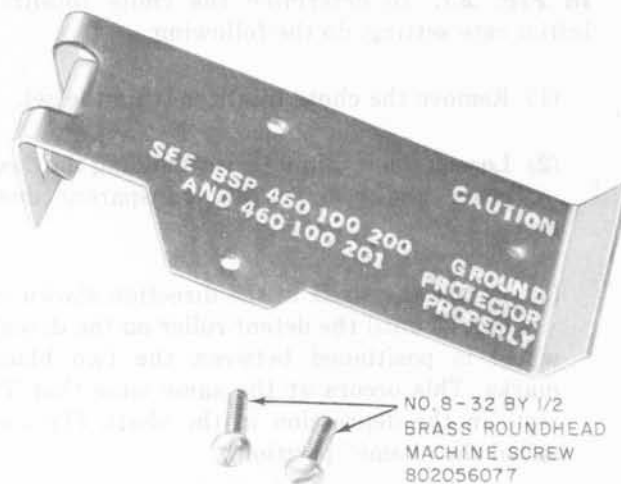

Fig. 32—7A Clip for Mounting 123A1A (DA) or 123E1A Protector and 840362024 Capacitor Board Assembly in Panel Set
- (1) Install the protector on a 7A clip as shown in Fig. 32.